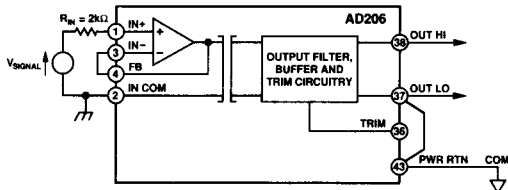

Figure 11. Basic Unity Gain Configuration
**Unity Gain Input Configuration.** The basic unity gain configuration for input signals of up to  $\pm 10$  V is shown in Figure 11.
**Note on the input resistor ( $R_{IN}$ ):** The 2 k $\Omega$  resistor placed in series with the input signal source and the IN+ terminal, designated as  $R_{IN}$  in Figures 11 and 12, is recommended so as to limit the current seen at the input terminals of the AD206 to 5.0 mA when the AD206 is not powered.